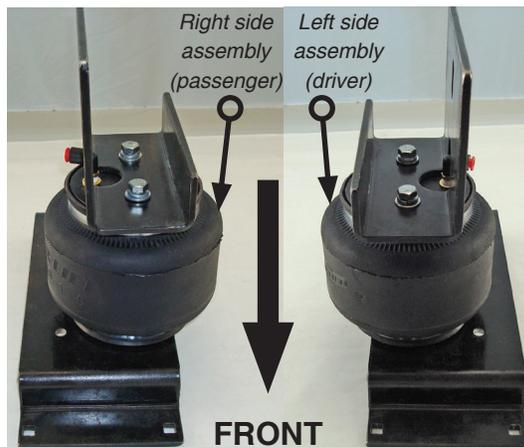

fig. 4
5. Attach the lower bracket to the bellows assembly with two 3/8" flat head screws (E) and torque to 20 lb.-ft. (Fig. 4).